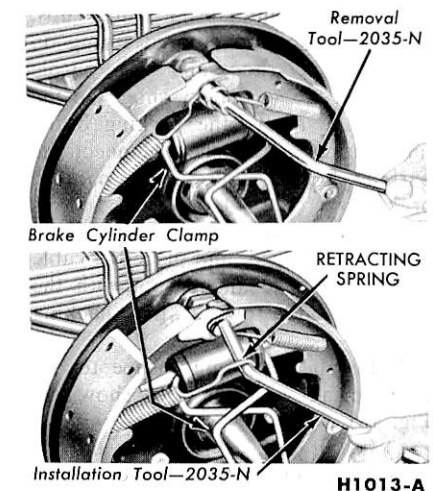

FIG. 18—Spring Replacement
1. With the wheel and drum removed, install a clamp over the ends of the brake cylinder as shown in Fig. 18.
5. Remove the secondary shoe to anchor spring with the tool shown in Fig. 18. With the same tool, remove the primary shoe to anchor spring and unhook the cable anchor. Remove the anchor pin plate, when so equipped.
5. Install the primary shoe to anchor spring with the tool shown in Fig. 18).
7. Install the secondary shoe to anchor (long) spring (Fig. 18).
2. Clamp the brake cylinder boots against the ends of the cylinder, and remove the brake shoe retracting springs from both shoes (Fig. 18).
5. Install the brake shoe retracting springs on both shoes (Fig. 18), being
2. Clamp the brake cylinder boots against the ends of the cylinder and remove the four brake shoe retracting springs with the tool shown in Fig. 18.